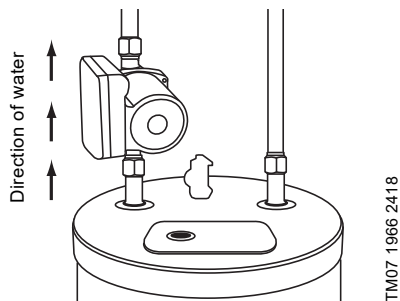

Fig. 2 Installing the pump onto the water heater outlet
4. Install the pump onto the water heater outlet, using the 3/4" female fitting and gasket supplied on the pump. Ensure that the pump shaft is horizontal. Install the pump so that it pumps away from the water heater, towards the house. See the flow arrow on the side of the pump housing for reference. Be sure that the pump does not touch the exhaust vent pipe (chimney) of a gas- or oil-fired water heater. See fig. 2.